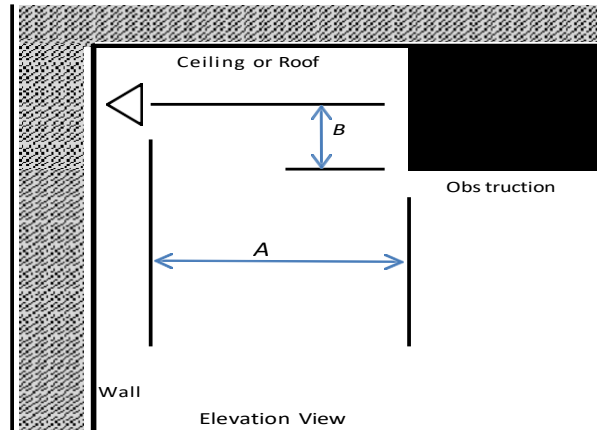

FIGURE 6.4.6.3.7.2(a) Positioning of Sprinklers to Avoid Obstructions (Residential Sidewall Sprinklers)
Note: For (A) and (B), refer to Figure 6.4.6.3.7.2(a)